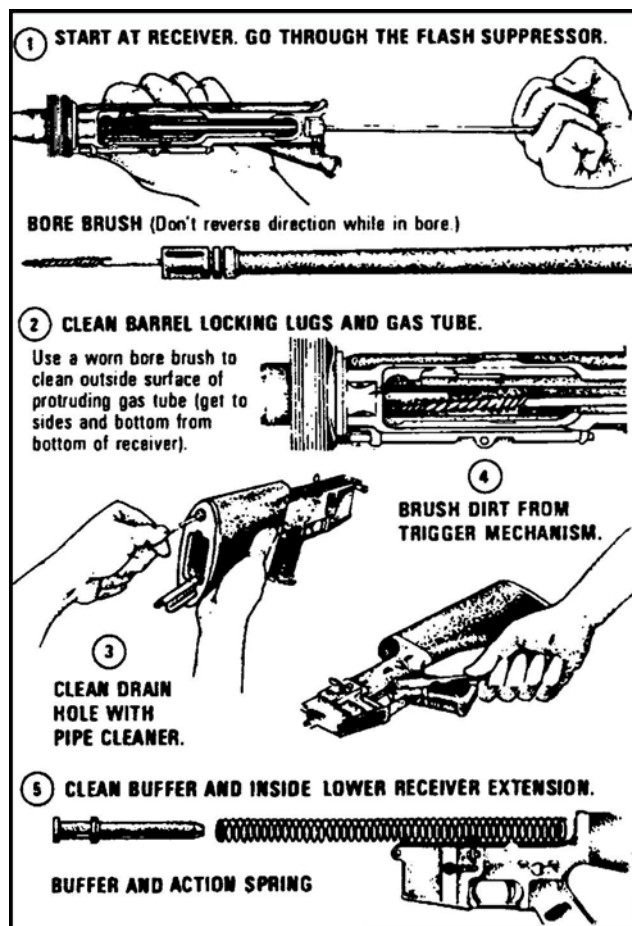

Figure 21. Cleaning the receivers.
a. Clean the upper and lower receiver groups using CLP to remove powder fouling in the upper receiver (Figure 21).